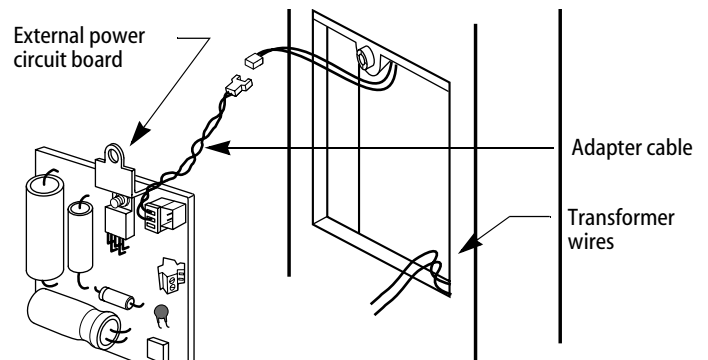

Figure 3—Connecting the external power circuit board
- 2 Make sure that the transformer wires are routed to the battery compartment opening. See Figure 3.
- 3 If the adapter cable is not already connected, connect it as shown in Figure 3.
- 4 Connect the external power circuit board to the same connector that the battery was connected to. See Figure 3.